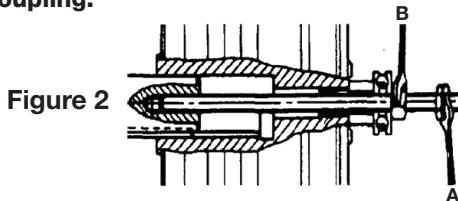

Figure 2
2. Fit fluid coupling on motor shaft by using a threaded bar as shown on Figure 2 and using two wrenches (hold wrench "A" and turn wrench "B" to draw the coupling on the motor shaft).